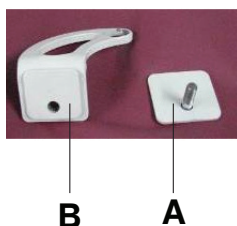
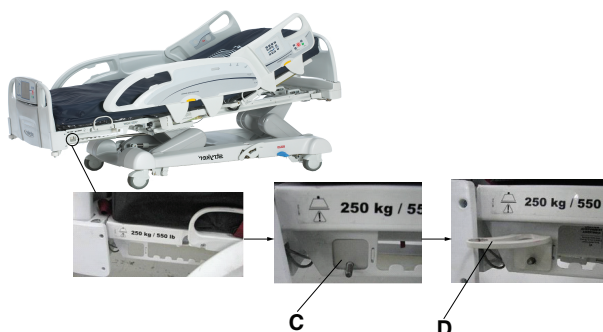

Figure 125: Bracket and bracket back
Figure 126: Attaching the bracket back and bracket
1. Attach the bracket back (A) and the bracket (B) (Figure 125 on page 113) onto the end of the foot end Foley bag hook at the foot end of the product (C and D) (Figure 126 on page 113).